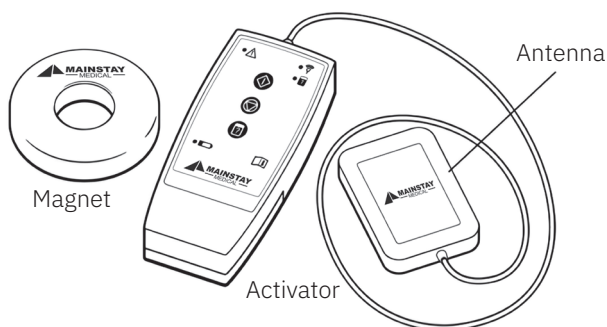
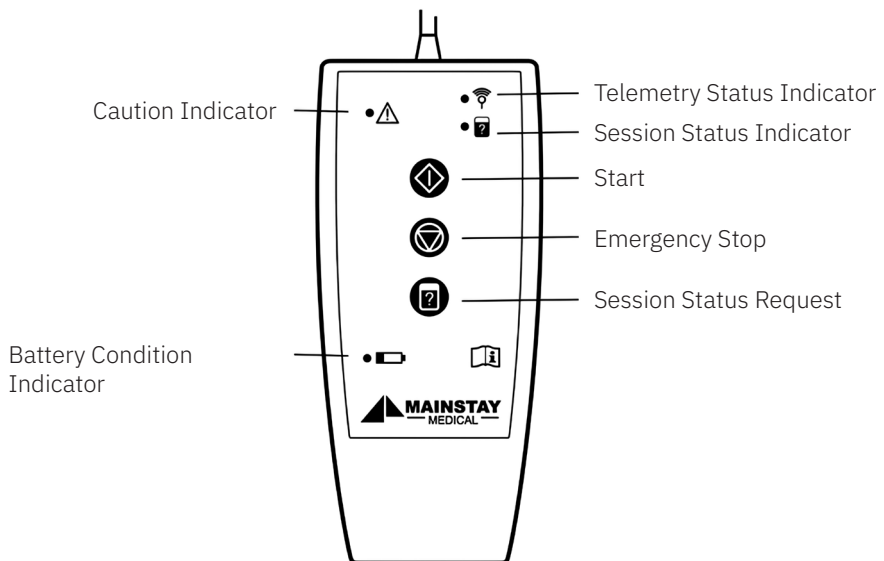

Figure 2: Magnet and Activator
Figure 3: Activator control module
An Activator or Magnet is used for controlling delivery of electrical stimulation by the implanted parts (Figure 2).
Activator – The Activator is a device that you use to start or stop stimulation. It can also be used to check the status of the IPG, e.g. if the IPG is ready to deliver stimulation. The antenna, which is placed over the IPG to make wireless contact, is connected with a long cable to the hand-held Activator (Figure 2) for ease of operation and viewing.
The Activator (Figure 2, on page 9) is a device that you use to start or stop stimulation. It can also be used to check the status of the IPG, e.g. if the IPG is ready to deliver stimulation. The antenna is connected with a long cable to the hand-held Activator control module (Figure 3) for ease of operation and viewing.
- Observe the Telemetry Status Indicator (see Figure 3):